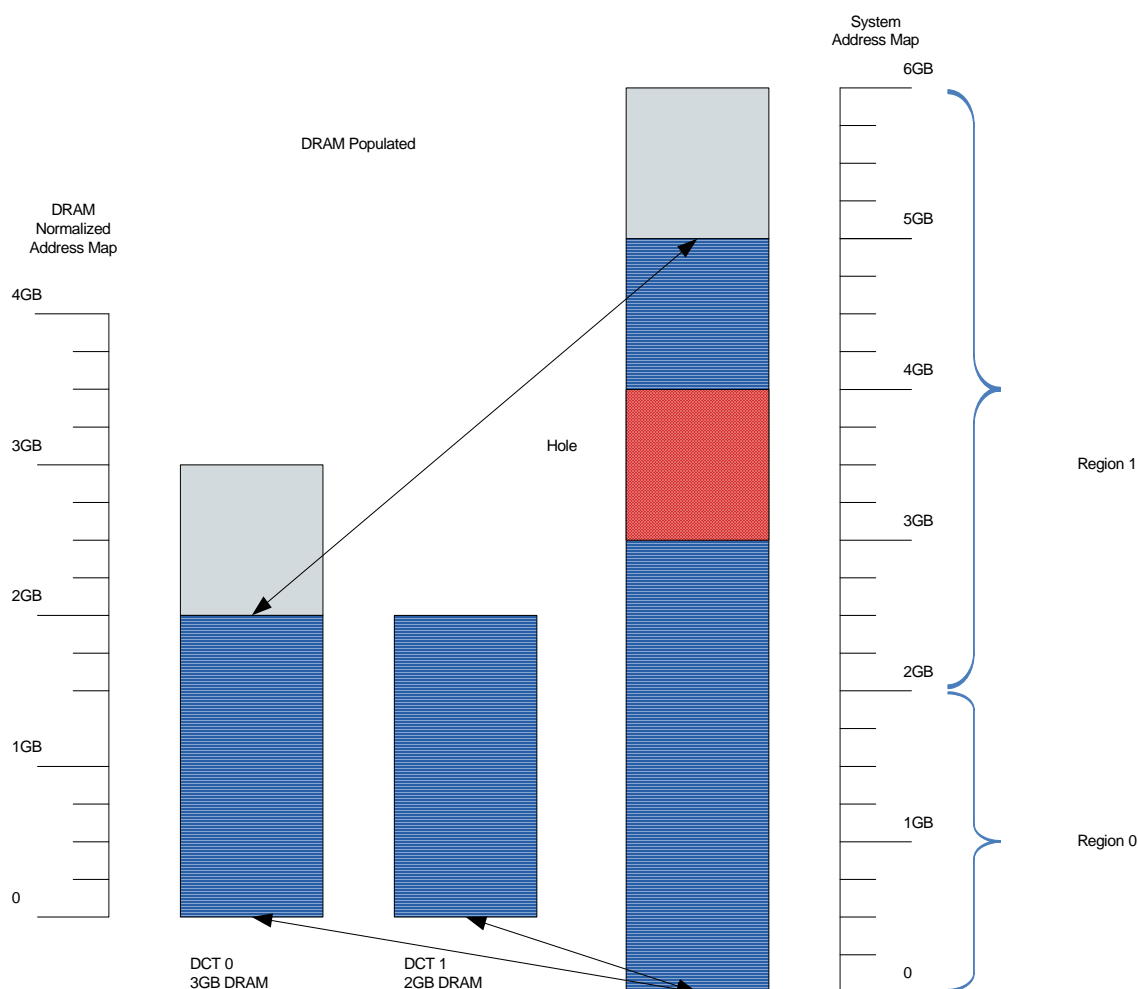

Figure 6: 2 DCT Channel Interleaved with Memory Hole
- Figure 6: Region 0 maps addresses 00_0000_0000h thru 01_3FFF_FFFFh which is channel interleaved and contains a 1GB memory hole; offset Region 1 to map the remaining memory.
- $D18F1x240[DctHighAddrOffset] = ((01_3FFF_FFFFh + 1) - 0 - 4000_0000h) / (2) = 2GB$. //DCT 0 offset from Region 0.